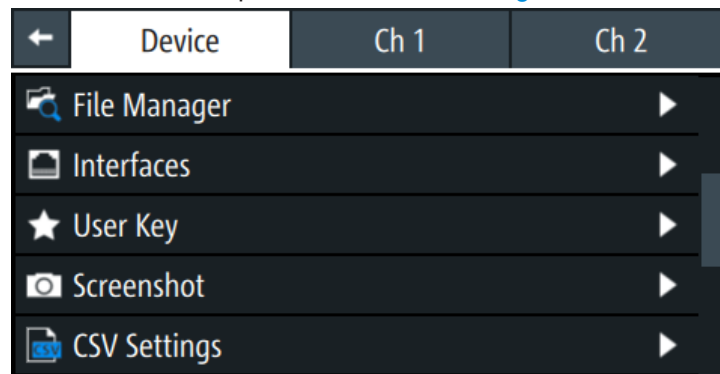

Figure 3-29: Example of a menu
- Both menus and dialogs appear similar and contain selection lists. Throughout this manual, a list of functions that lead you to the settings of this function is referred to as a menu. The term dialog refers to the views that cover the parameters of a certain function. Some dialogs are divided into tabs with logically grouped parameters. The instrument functions are grouped into various menus based on the categories of "Device" and respective channel. See Figure 3-29.